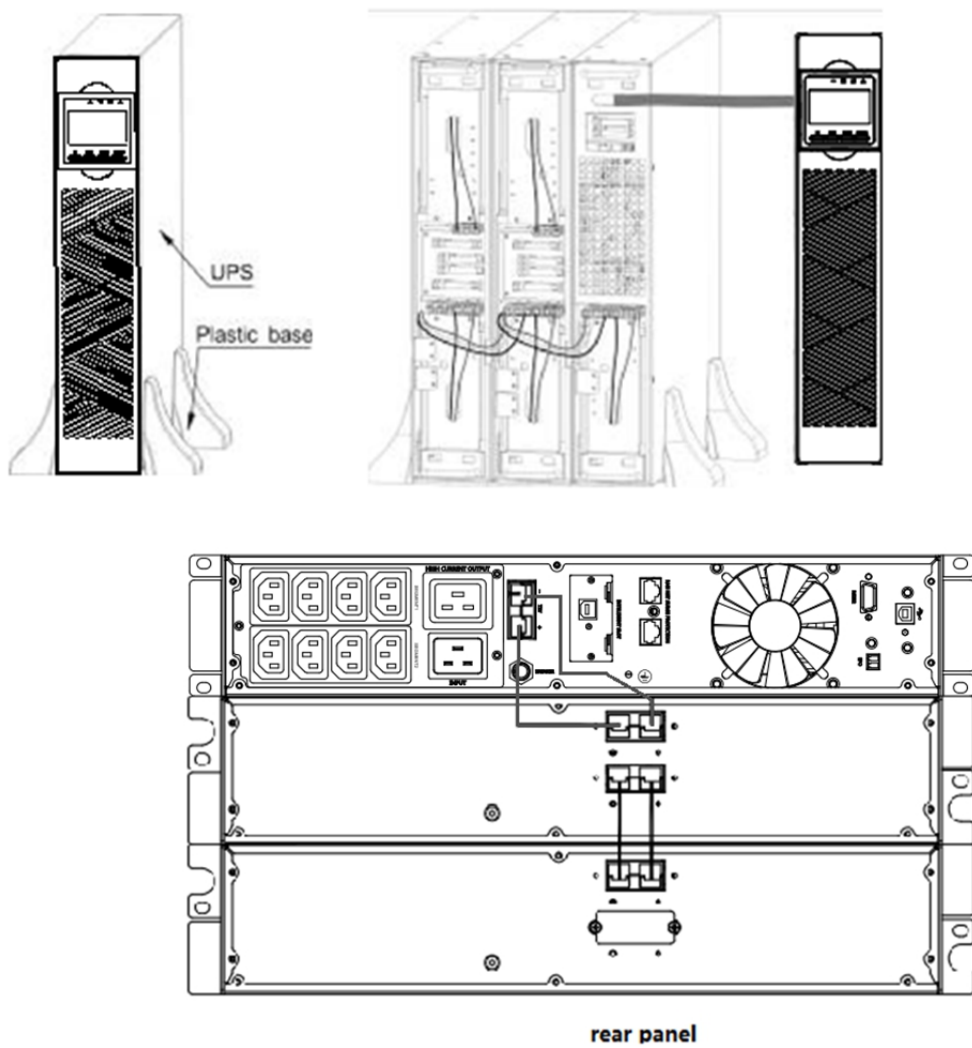

Figure14 The installation for UPS and battery boxes
- The installation between UPS and EBPS can be referred to Fig.14